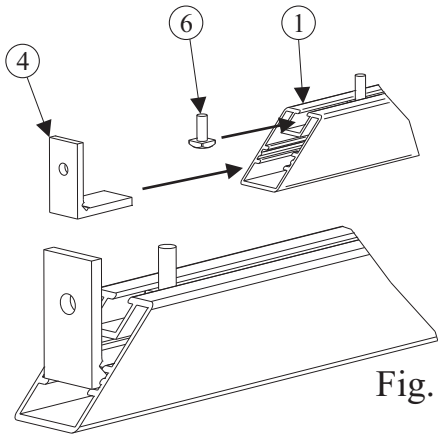

Fig. 2
2 Take 6 of BOL336 (6), slide 2 into the channel of one of the frames (1), sliding them both into the longer section, which will form the backbar. Slide another 2 of the bolts into smaller section, as shown in Fig. 2, and repeat for the other side. These bolts will be used to affix the two frames and the net supports.
3 Slide the inner 'L' bracket into the frame channel as shown in Fig. 2. Ensure the bracket sits all the way into the frame, as shown in Fig.3. This will form the back of the frame.